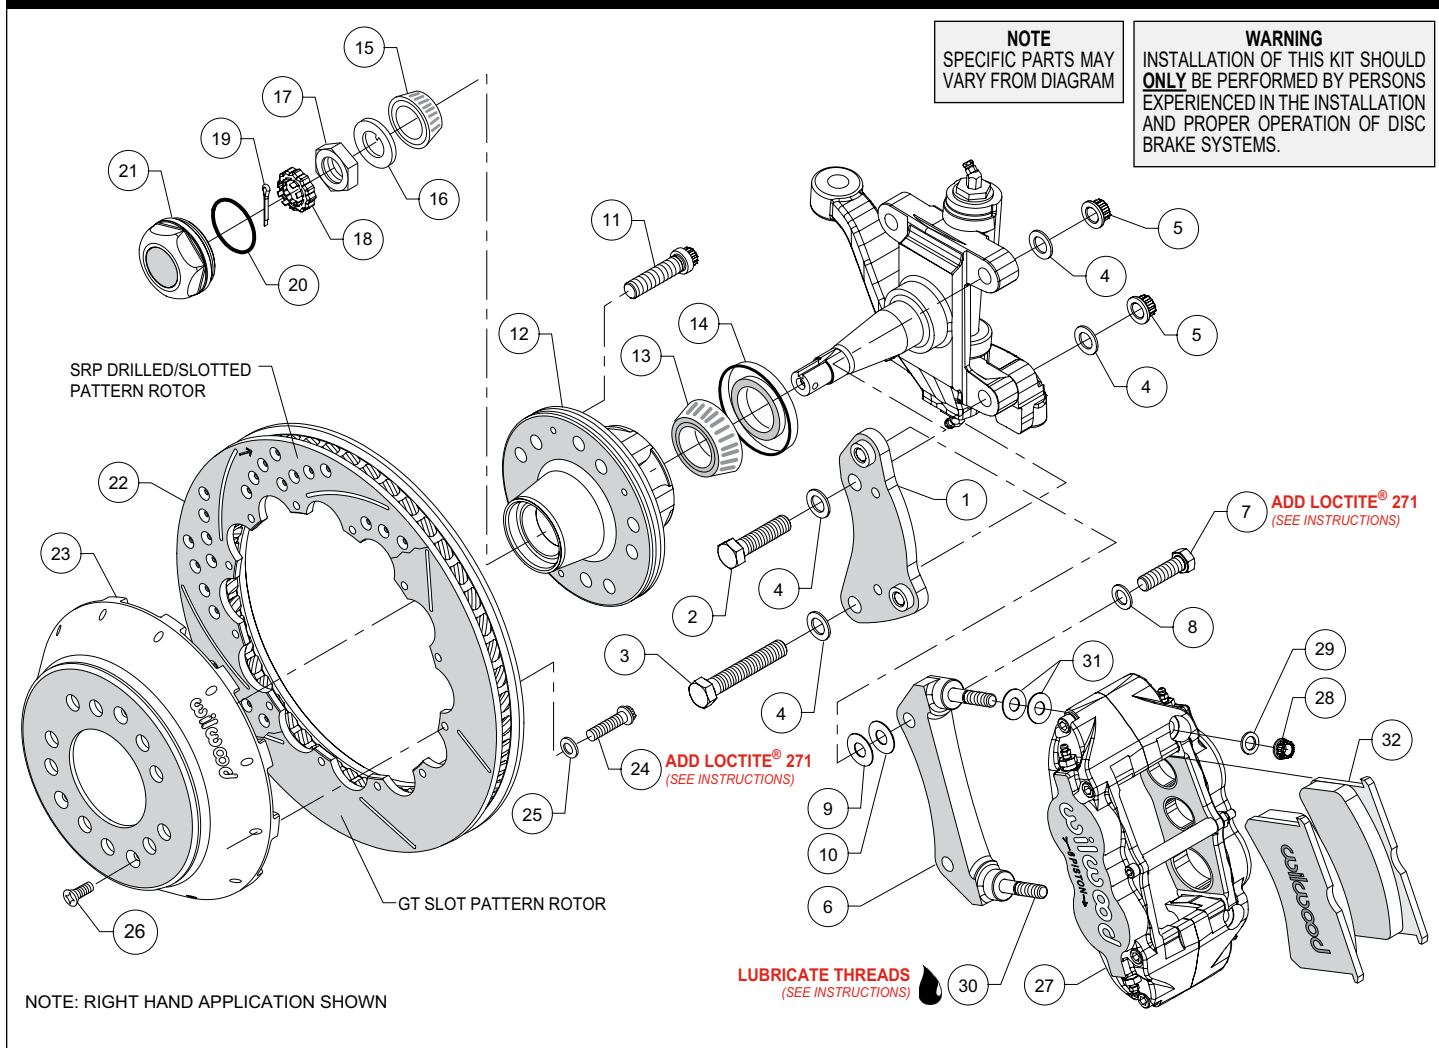
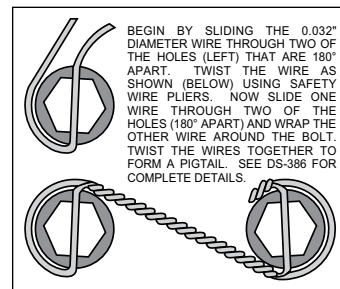

Figure 1. Typical Installation Configuration
Figure 3. Safety Wire Diagram
**NOTE:** Numbers in parenthesis refer to the parts list and Figure 1 on the preceding pages.
- Orient the spindle bracket (1) as shown in Figure 1 and Photo 1, and install using bolts (2 and 3), washers (4) and nuts (5). Temporarily tighten the mounting bolts. Ensure that the flanged heads of the clinch nuts in the bracket are facing outboard, Photo 1. **NOTE:** The bracket must fit squarely against the mount bosses on the upright. Inspect for interference from casting irregularities, machining ridges, burrs, etc. Torque lock nuts (5) to 65 ft-lb.
- The caliper mount radial bracket (6) should initially be installed with clean, dry threads on the mounting bolts. Orient the bracket as shown in Figure 1, and Photo 2. Install onto the spindle bracket using bolts (7), and washers (8). Initially place one .030 thick shims (9) on each bolt between the radial and spindle brackets, Figure 1. Temporarily tighten the mounting bolts. Later, after the caliper alignment has been checked, the mount bolts will be secured using red *Loctite*® 271.
- Install wheel studs (11) into the hub (12), Photo 3. Torque to 77 ft-lb. **NOTE:** There are two five lug patterns in the hub (5 x 4.50 and 5 x 4.75). Ensure the correct hub stud pattern is being used to fit the wheel application.
- Pack the large inner bearing cone (13) with high temperature disc brake bearing grease (available from your local auto parts store) and install into the backside of the hub (12), Photo 4.
- Install the grease seal (14) by pressing into the backside of the hub (12), flush with the end of the hub, Photo 5.
- Pack the small outer bearing cone (15) with high temperature disc brake bearing grease and install into the front side of the hub (12), Photo 6. Slide the hub assembly onto the spindle. Secure using spindle washer (16) and spindle nut (17). Adjust bearings per OEM specifications. Install spindle nut retainer (18) and cotter pin (19), Photo 7.
- Screw dust cap (21) into hub (12), Photo 8. Friction created by the o-ring (20) on the dust cap keeps it from unscrewing. **NOTE:** The O.D. of the existing OEM spindle washer may be larger than the I.D. of the dust cap not allowing it to seat against the hub face. Therefore, use the spindle washer (16) supplied with the kit instead of the OEM washer.
- Orient the rotor (22) and the hat (23) as shown in Figure 1 and Photo 9. Attach rotor to hat using bolts (24) and washers (25). Apply red *Loctite*® 271 to the bolt threads and torque to 155 **in-lb** using a criss-cross pattern. For an added measure of security, the bolts may be safety wired using standard 0.032 inch diameter stainless steel safety wire as shown in Figure 3. Refer to Wilwood's data sheet DS-386 (available at [www.wilwood.com/Pdf/DataSheets/ds386.pdf](http://www.wilwood.com/Pdf/DataSheets/ds386.pdf)) for complete safety wire installation instructions.
- Slide the hat/rotor assembly (23/22) onto the hub (12) taking care to align the small countersunk holes in the hat with the small threaded holes in the hub, Photo 10. **NOTE:** The hat must fit flush against the hub face or excessive rotor run out may result. Install three flat head screws (26) through the small holes in the hat, and torque to 85 **in-lb**.
- NOTE:** This kit contains distinct right and left hand calipers that must be mounted in a specific direction, as described below. Lubricate the caliper mounting studs (30) with lightweight oil. Initially place two .035" thick shims (31) on each stud between the caliper and the bracket, as shown in Figure 1 and Photo 11. Mount the caliper (27) onto the bracket (6) using lock nuts (28) and washers (29), Figure 1. Ensure that the caliper is mounted so the largest pistons are at the rotor exit end of the caliper, in relation to the direction of rotor rotation. Temporarily tighten the lock nuts and view the rotor through the top opening of the caliper. The rotor should be centered in the caliper, Photo 12. If not, adjust by adding or subtracting shims (9 and/or 10) between the spindle bracket (1) and the caliper mount bracket (6). Always use the same amount of shims on each of the two mounting bolts (7).